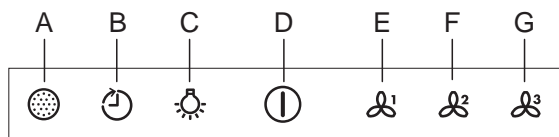

Fig. 19
- The control switches are located on the front panel of the unit. See Fig. 19 below.